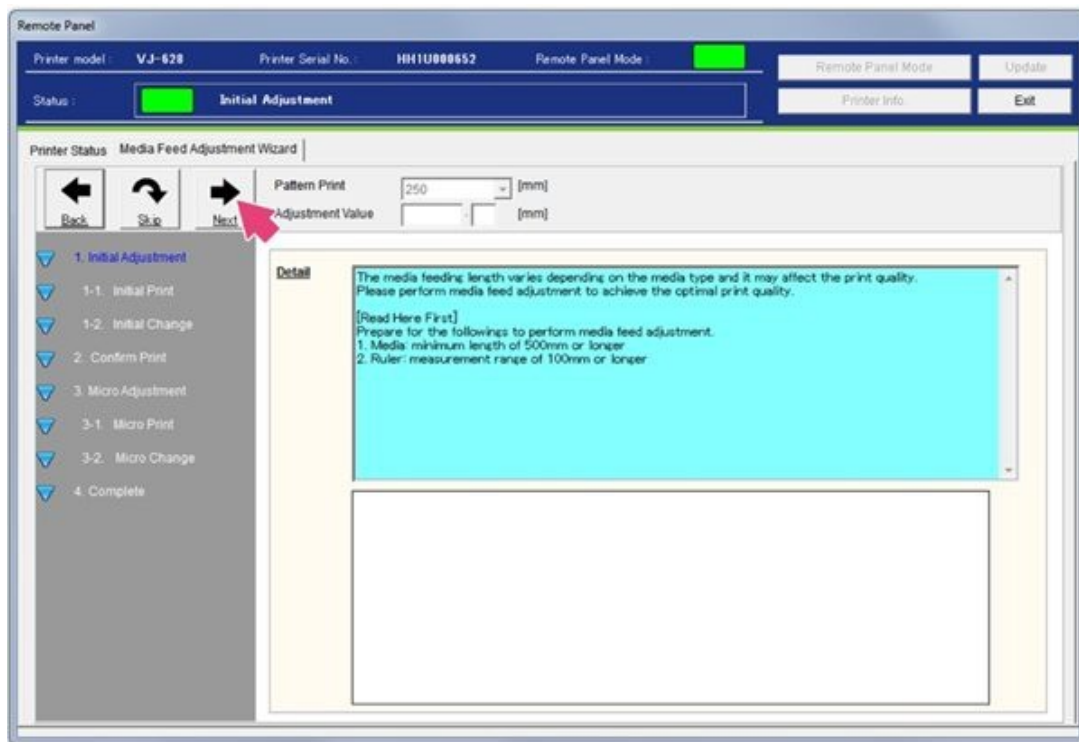

Figure 94
81. Initial Adjustment - Media Feed. Select **Next** to continue. See Figure 94.